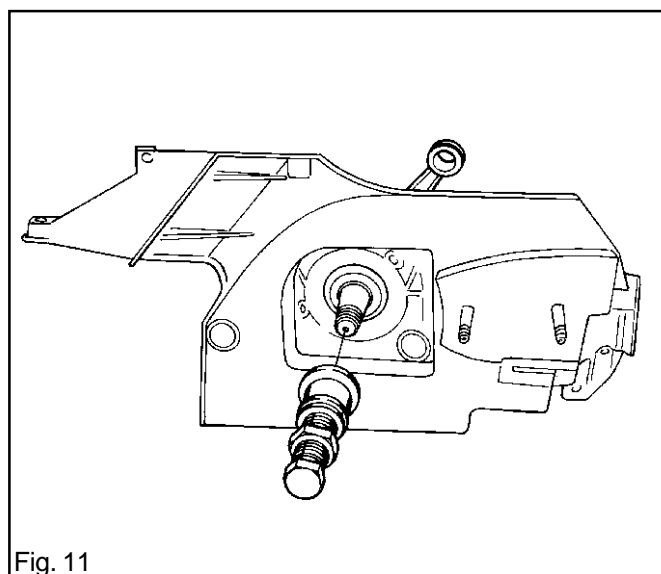

Fig. 11
3. Use tool 502 50 30-17 and pull the crankshaft into the clutch side's crankcase half. See fig. 11. Pull until the crankcase shoulder mates with the bearing.